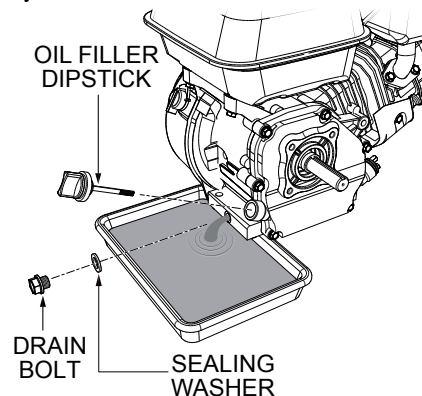

Figure 33. Engine Oil (Draining)
1. Drain the engine oil when the oil is warm as shown in Figure 33.